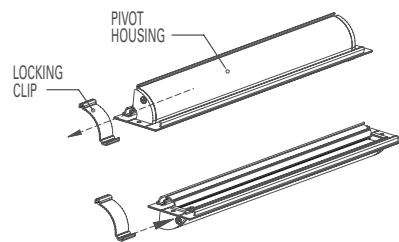

FIGURE 6
9. If the fixture is to be wall mounted, first, loosen the set screw on the back of the pivot housing. Then remove the locking clip by sliding it to the end of the pivot housing (See Figure 6). Rotate the pivot housing 90 degrees, and then replace the locking clip. Tighten the set screw.